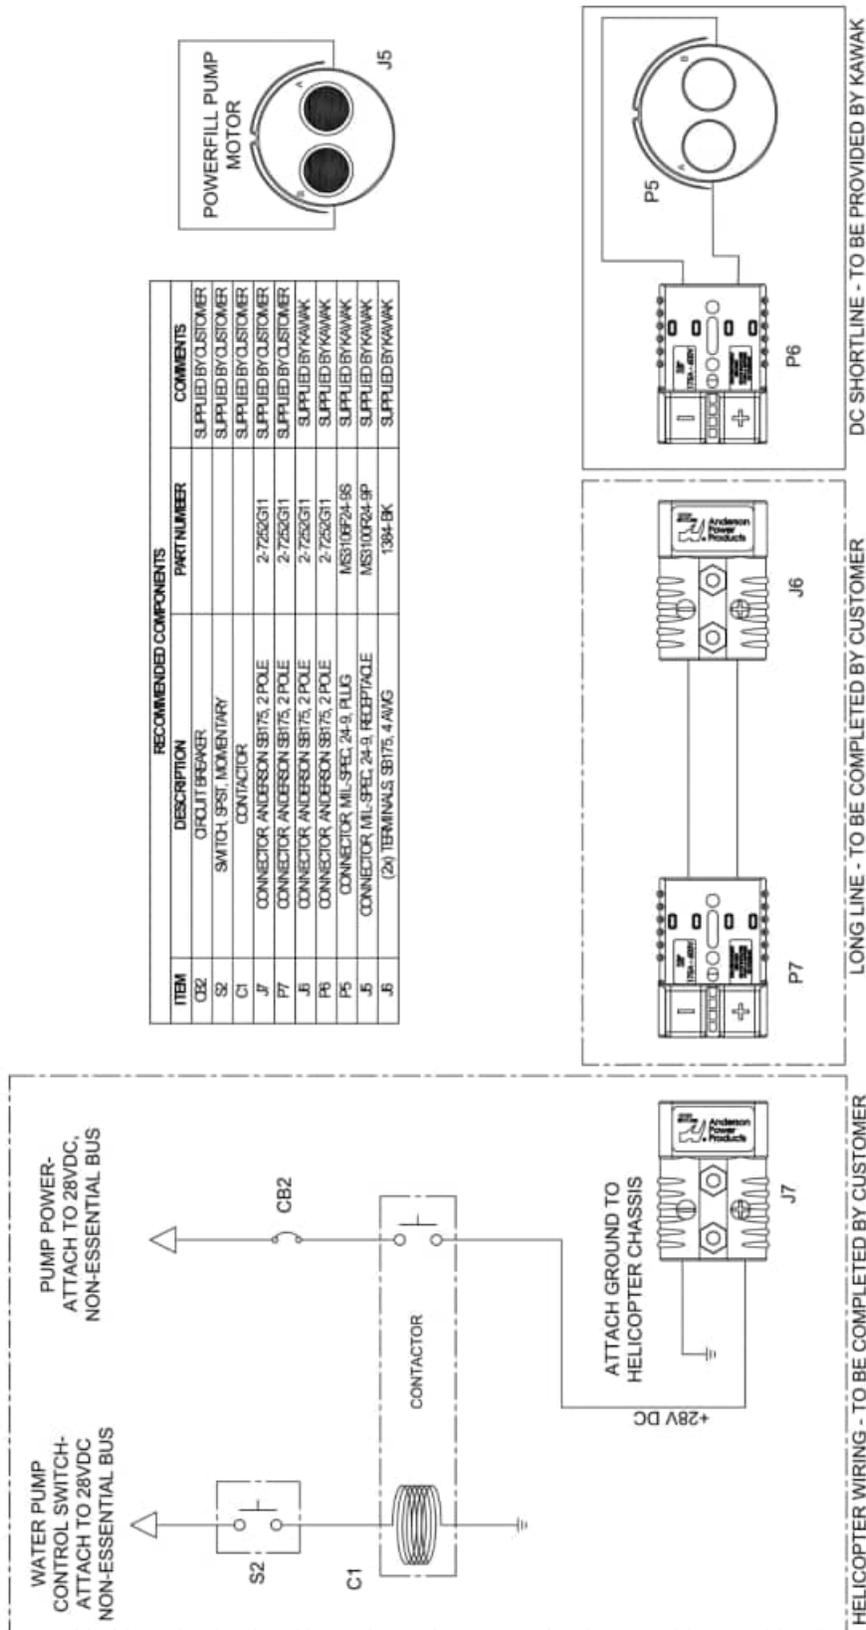

Figure 23: Wiring Schematic for 28VDC Bucket Refill Pump
The 28VDC bucket refill pump requires 80A – 150A depending on desired performance and other variables. This DC pump motor’s current can be internally limited to 80A, 100A, 120A or 150A. The higher the current limit is set, the greater the fill rate will be. However, the wire gauge will also have to be increased as the current limit and long line length are increased. Table 4 below shows pump performance at different current settings and long line lengths. Refer to Figure 23 below for a schematic of a typical bucket refill pump installation. It is the responsibility of the operator to complete the wiring between the connector on the belly of the aircraft (J13) and a suitable DC power source.
2. While one crew member closes the cockpit switch to power the refill pump circuit, the second person is needed to confirm correct polarity at the disconnected Anderson connector. Consult Figure 23. Polarity should match the (+) & (-) markings on the Anderson Connector.